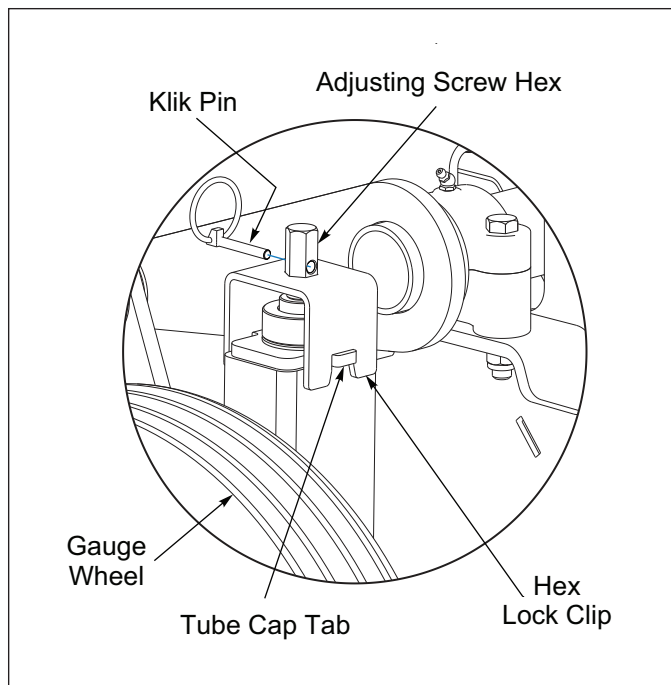

Figure 3-9: Adjusting Gauge Wheel
1. Adjust the Gauge Wheels by removing the Klik Pin and Hex Lock Clip. **See Figure 3-9.**